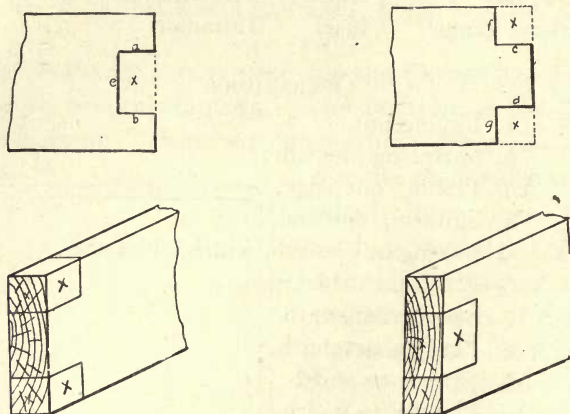

FIG. 44.—HALVED JOINTS OF SEED-TESTING BOX.
11. Laying out the halved joints. — In laying out the halved joints at the corners, set the marking gauge at $\frac{7}{8}''$ and gauge both ends of the four pieces, gauging from the two edges as at *a, b, c, d* (Fig. 44), then gauge across the ends as at *e, f, g*, being careful that both ends of each